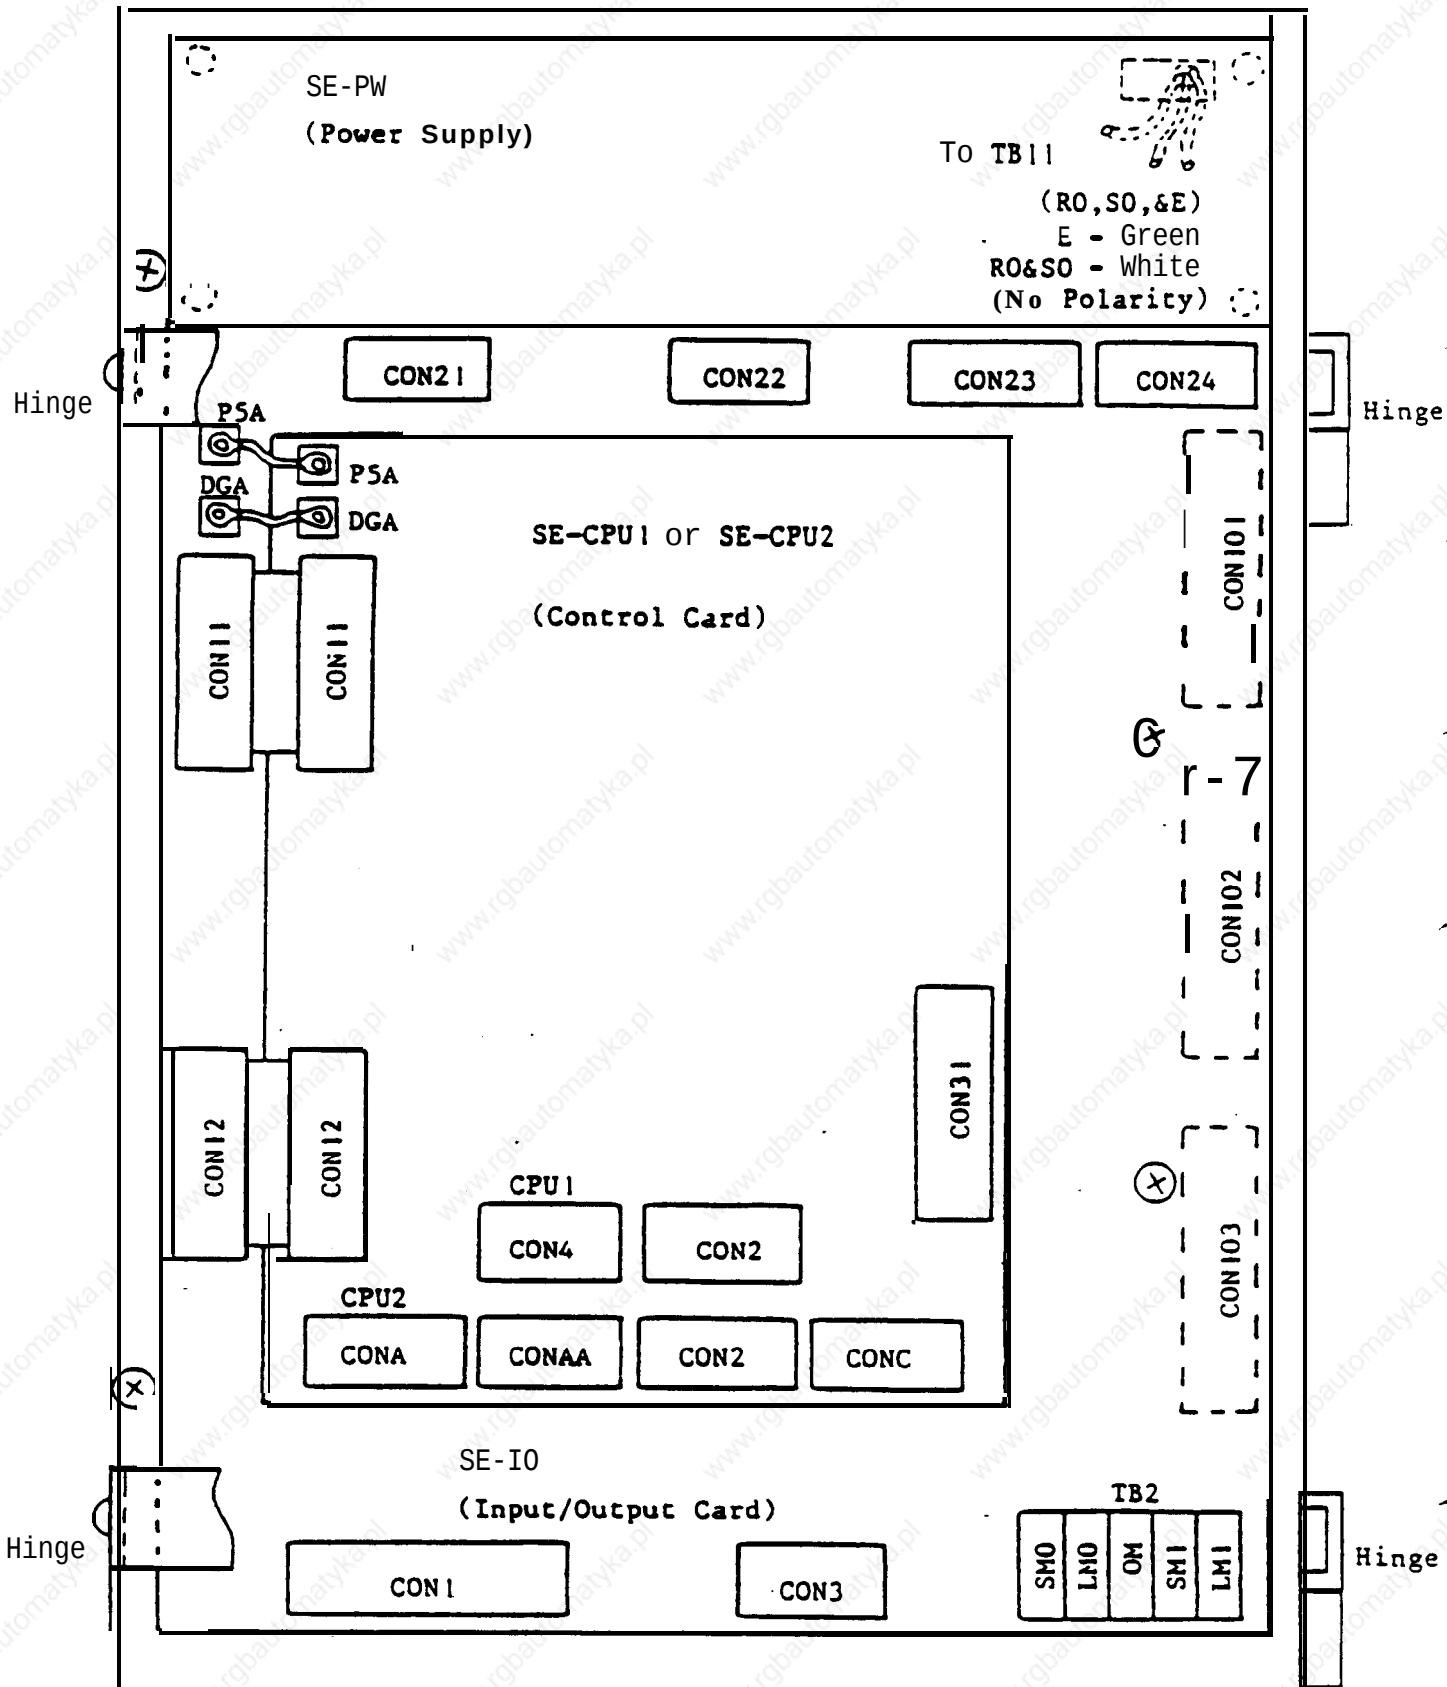

Figure 2
2. Removal of SE-CPU card. (Refer to Fig. 2)
(2) Remove the card while **compressing the card installation spacer claws**.
3. Removal of **SE-IO** card. (Refer to Fig. 2)
4. Remove the SE-PW power supply. (Refer to Fig. 2)